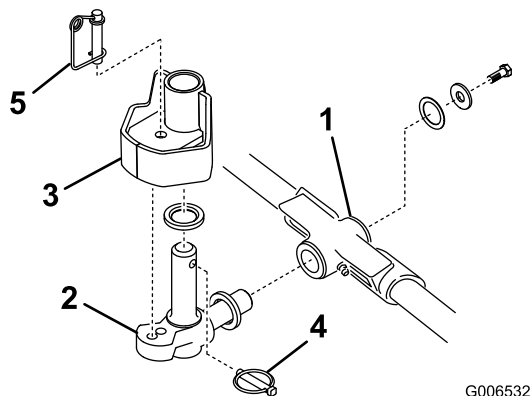

Figure 17
1. Insert a thrust washer onto horizontal shaft of pivot knuckle as shown in Figure 17.
2. Insert the horizontal shaft of the pivot knuckle into the mounting tube of the carrier frame (Figure 17).
3. Secure pivot knuckle to carrier frame with a thrust washer, flat washer and a flange head capscrew (Figure 17).
4. Insert a thrust washer onto vertical shaft of pivot knuckle (Figure 17).
5. If removed, insert the vertical shaft of the pivot knuckle into lift arm pivot hub (Figure 17). Guide
6. Insert the lynch pin into the cross hole on the pivot knuckle shaft (Figure 17).
Note: If fixed cutting unit position is required, insert steering locking pin into pivot knuckle mounting hole (Figure 17).
11. Hook spring wire around bottom of steering locking pin (Figure 17).